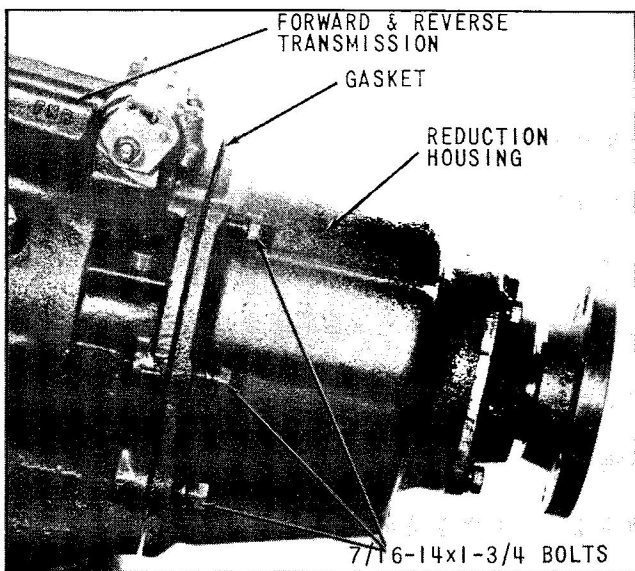

Fig. 74 Assemble Reduction Housing to
1. Install reduction housing to case gasket on rear of transmission and assemble the reduction housing and all parts, which have been assembled into it, over parts, which are attached to forward and reverse transmission, and with a gentle twisting of the coupling to align gears, complete the assembly by installing the six 7/16-14 x 1-3/4 hex head bolts to retain reduction unit to forward and reverse transmission, (Fig. 74).